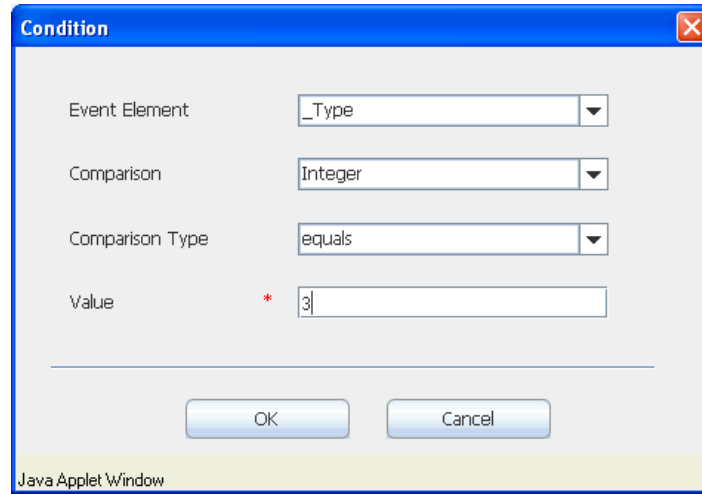

Figure 67. Event Elements conditions have been added.
- 7 Select *Comparison Type* from the drop-down list, see figure 67 on page 60.